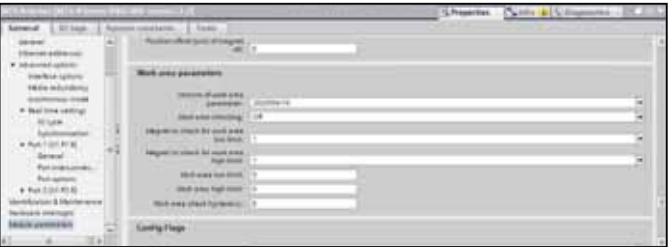

Fig. 67: Setting the switching points for the work area
- Setting the switching points for input module “Sensor status 2”:** To read the information from the input module “Sensor status 2”, drag this module into the “Device Overview” window. In the “Module parameters” section of the sensor, you can set the parameters for switching points under “Work area parameters” (Fig. 67):